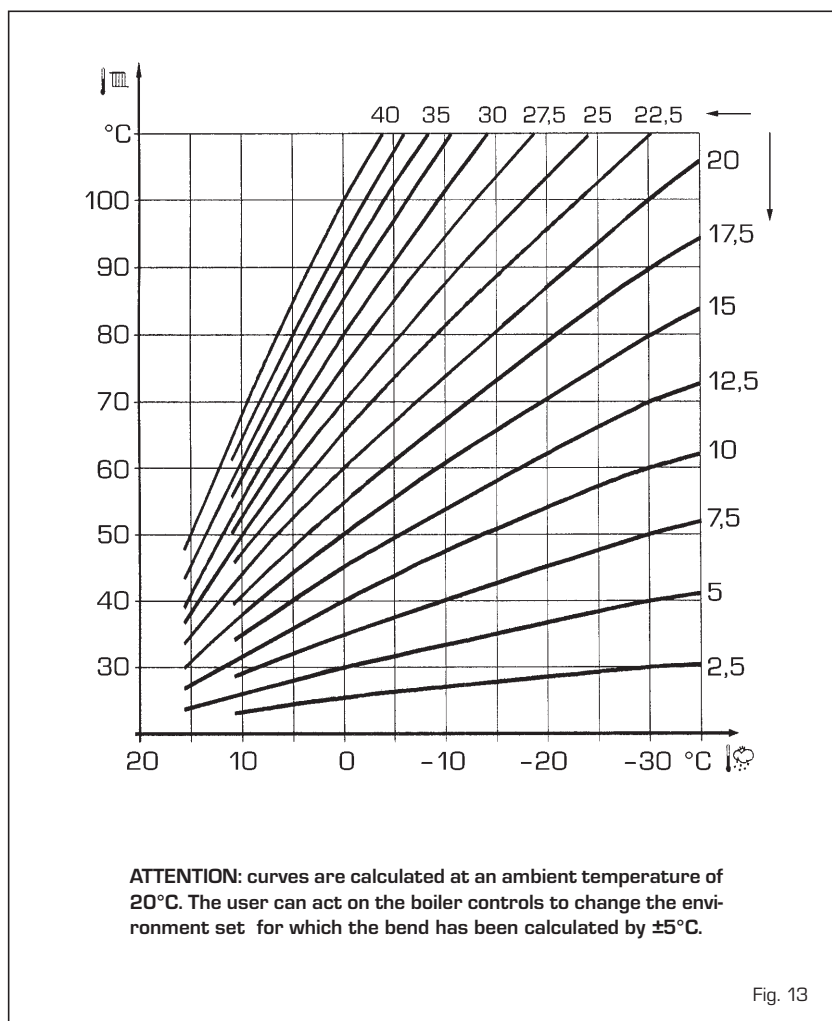

Fig. 13
3.4 EXTERNAL SENSOR (fig. 13)
The climatic curve to be set can be selected from a value of 3 and 40 [at step 1]. Increasing the steepness of the curves of fig. 13 will increase the output temperature as the external temperature decreases.